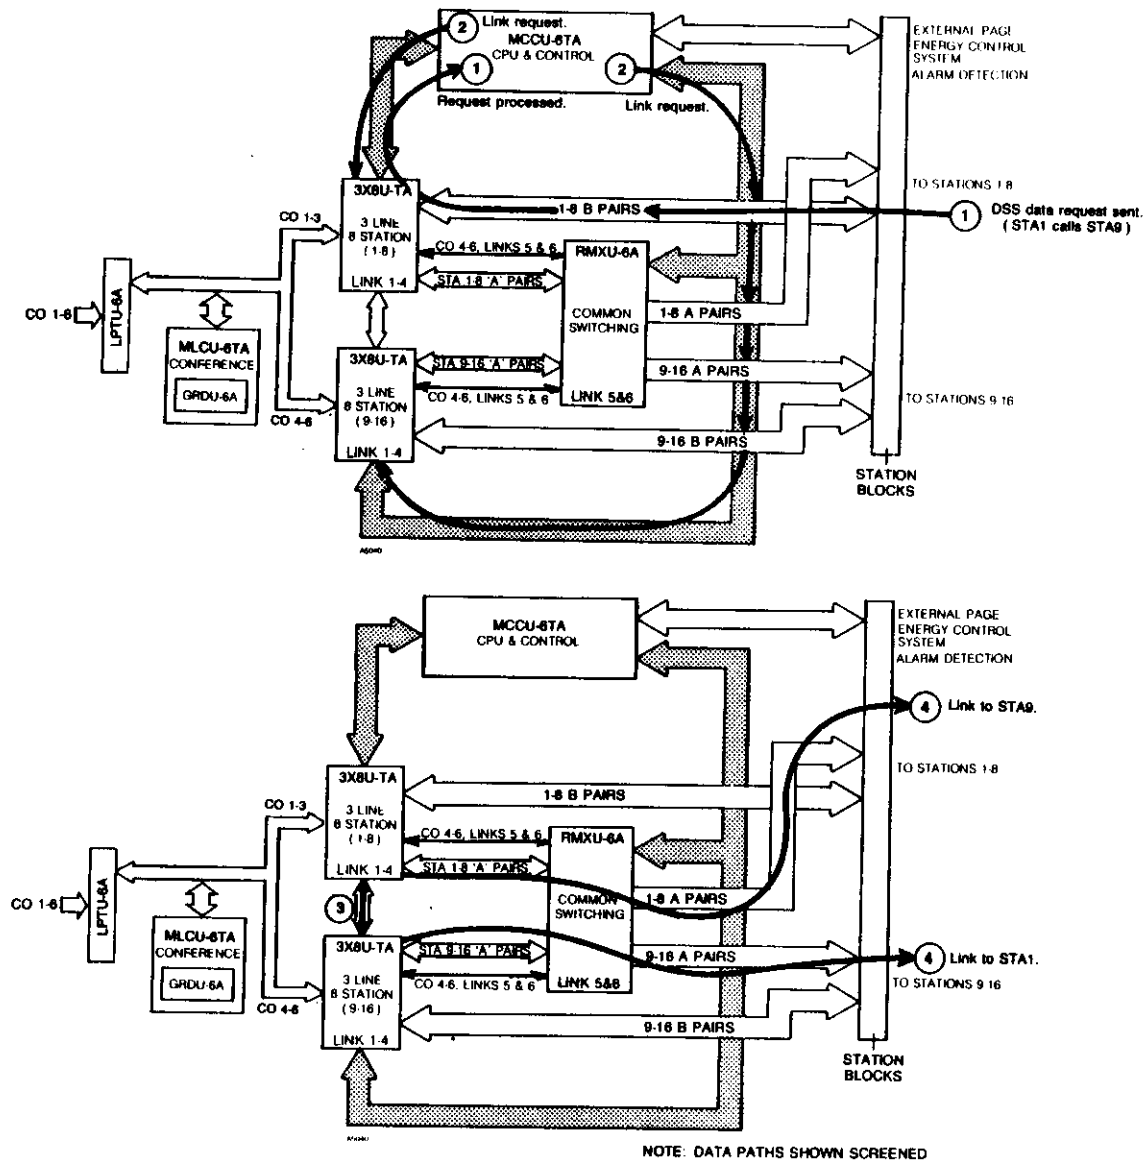

Figure 7-15 PLACING AN INTERCOM CALL, EK-616
9.05 Placing a DSS Intercom call requires the telephone user to press the desired DSS key. This action will cause an Intercom data request to be transmitted to the MCCU-6TA processor (Figure 7-15, signal 1). The CPU reacts by sending link request commands to the 3XB-U-TA PCBs (Figure 7-15, signal 2). In the example below, station 1 makes a request for Intercom to station 9. The link closure is made (station 1 to available link to station 9, Figure 7-15, signal 3), the station "A" pairs are connected, (Figure 7-15, signal 4), and Intercom conversation can begin.